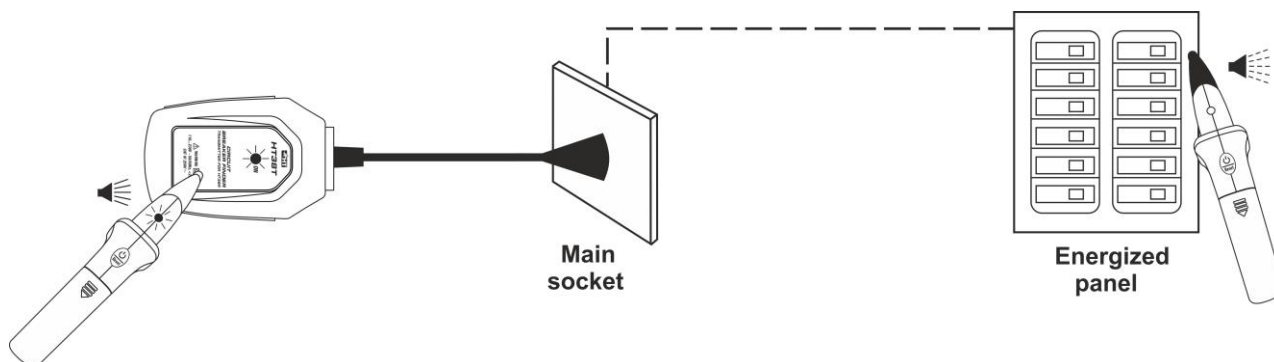

Fig. 3: Connection of transmitter to the circuit to be tested
2. Connect the transmitter to the electric mains through the integrated plug. The ON LED on the front of the instrument (see Fig. 2 – part 2) turns on and the unit automatically activates and sends the signal into the circuit to be tested (see Fig. 3).
3. Bring the sensitive element of the receiver above the transmitter (see Fig. 3) and check for a continuous sound (). The green LED turning on (see Fig. 1 – part 3) and the red LED turning off (see Fig. 1 – part 2) indicate that the signal has been recognized.
4. Keep the receiver near the energized control panels and move in the direction in which the intermittent sound of the unit becomes faster to signal that the source to be searched is near (see Fig. 3).